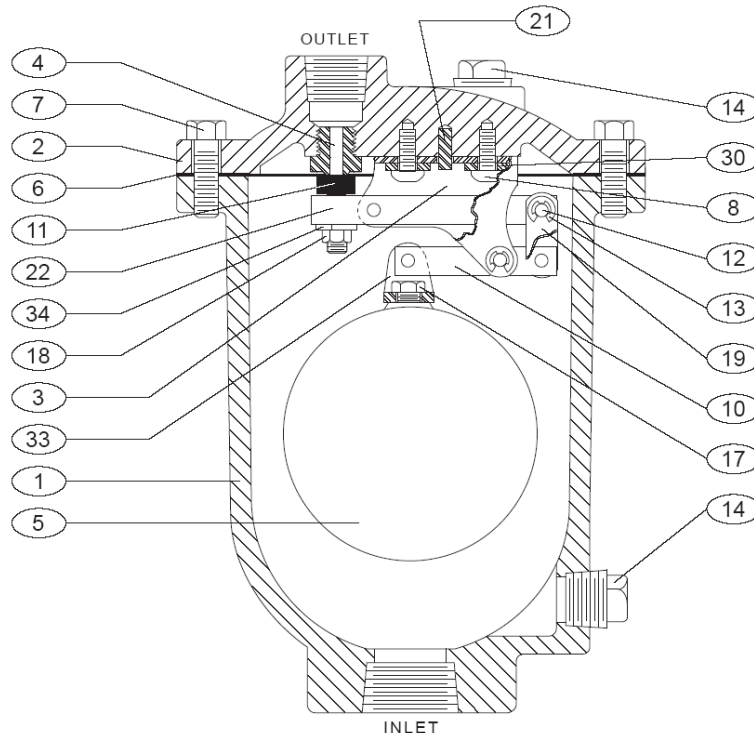

FIGURE 2. Compound Lever AIR RELEASE VALVE
The standard Air Release Valve body and cover are cast iron. See the specific Materials List submitted for the order if other than standard cast iron construction. All internal components are stainless steel with the exception of the orifice button which is resilient. The general details of construction are illustrated in Figure 2. The body (1) is threaded for connection to the pipeline. The seat (4) is threaded into the cast cover (2).
All parts must be cleaned and gasket surfaces should be cleaned with a stiff wire brush in the direction of the serrations or machine marks. Worn parts, gaskets and seals should be replaced during reassembly. Refer to Figure 2 on page 2.